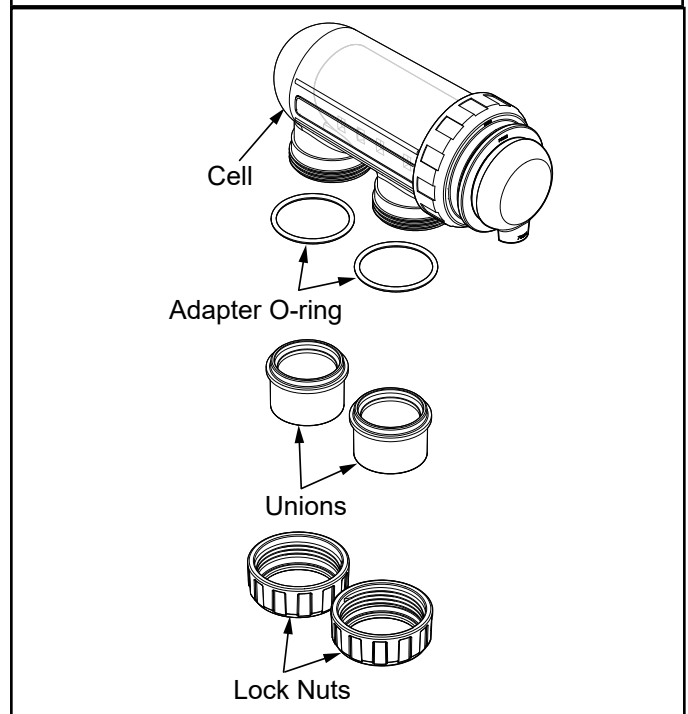

Figure 4. Cell Plumbing Assembly
3. Put the lock nuts onto the inlet and outlet pipes in the correct orientation, see Figure 4.